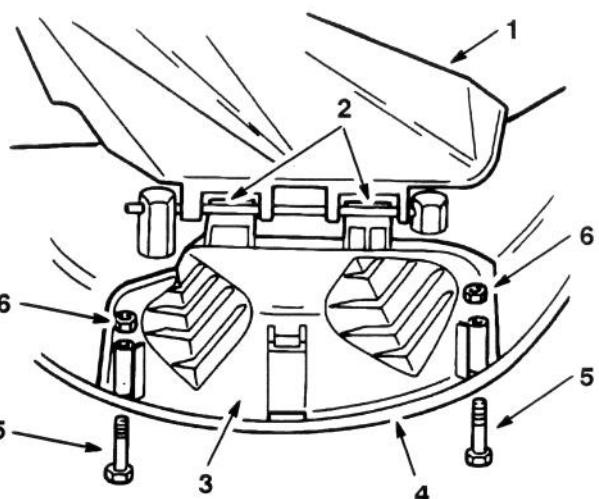

Figure 12
- Lift the grass deflector and slide the tabs on top of the discharge cover under the grass deflector retaining rod. Rotate the discharge cover down over the opening, and onto the lower lip of the mower (Fig. 12).
- Secure the discharge cover to the lower lip of the mower with bolts and nuts (Fig. 12).